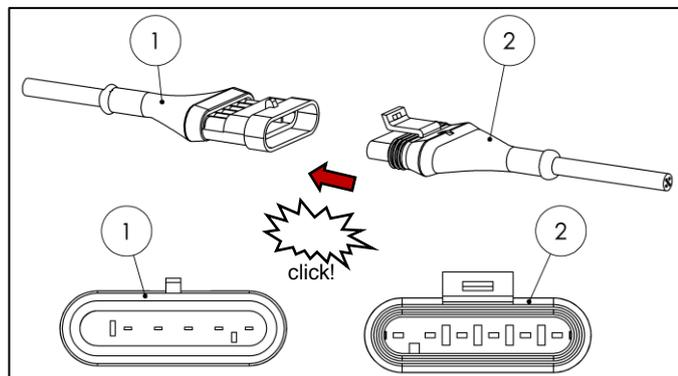

Fig. 47
- Connect the control panel connector (1) to the control unit connector (2) (see Fig. 47).